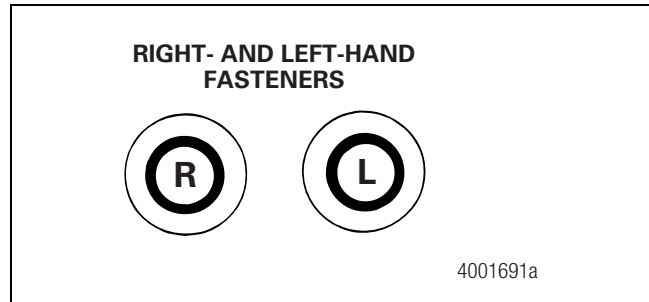

Figure 13.38
3. Check for **R** and **L** stamped in the end of the stud. Figure 13.38. Install right-hand studs onto the right side of the vehicle, and left-hand studs onto the left side of the vehicle.